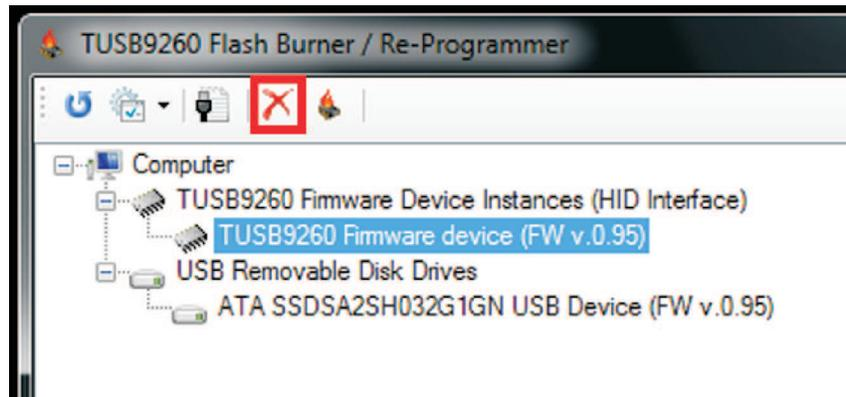

Figure 4-13. Erasing SPI Flash With HID-Enabled Firmware
- In this case, select the preferred HID interface instance that is shown in the compatible device list, and then click the Erase Flash button (see Figure 4-13).